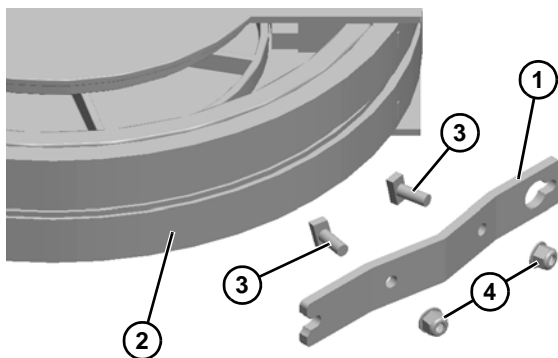

Figure 48
3. Install tie bar (Figure 48, item 1) to curved conveyor section (Figure 48, item 2) with two M8 x 20 mm studs (Figure 48, item 3) and hex nuts (Figure 48, item 4).